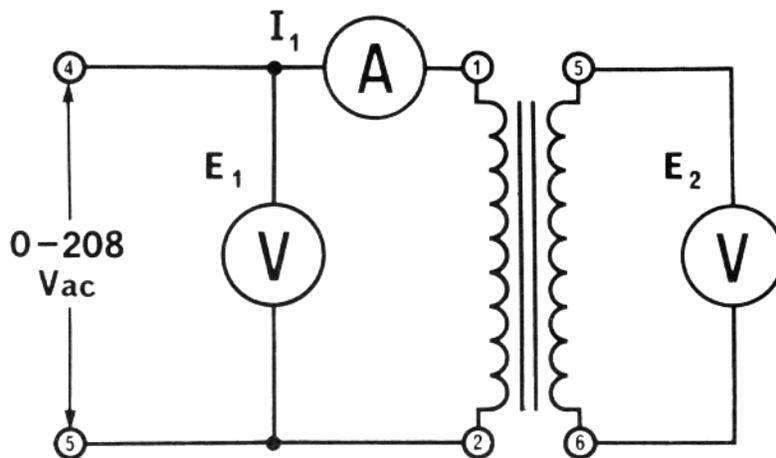

Figure 04-3
- 2) To determine the effect of core saturation, construct the circuit shown in Figure 04-3: